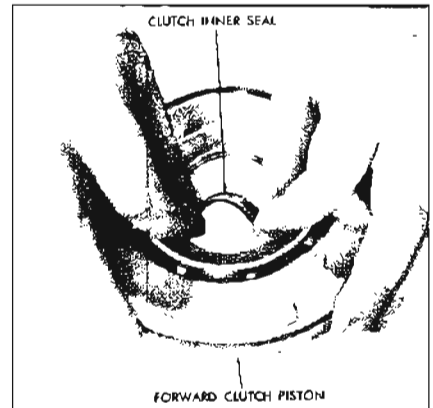

Figure 5-608
9. Remove the center piston seal from the forward clutch housing. See Figure 5-608.